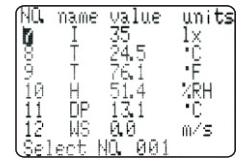

Figure 6
1. Data interface of memory area 1 (Figure 6)